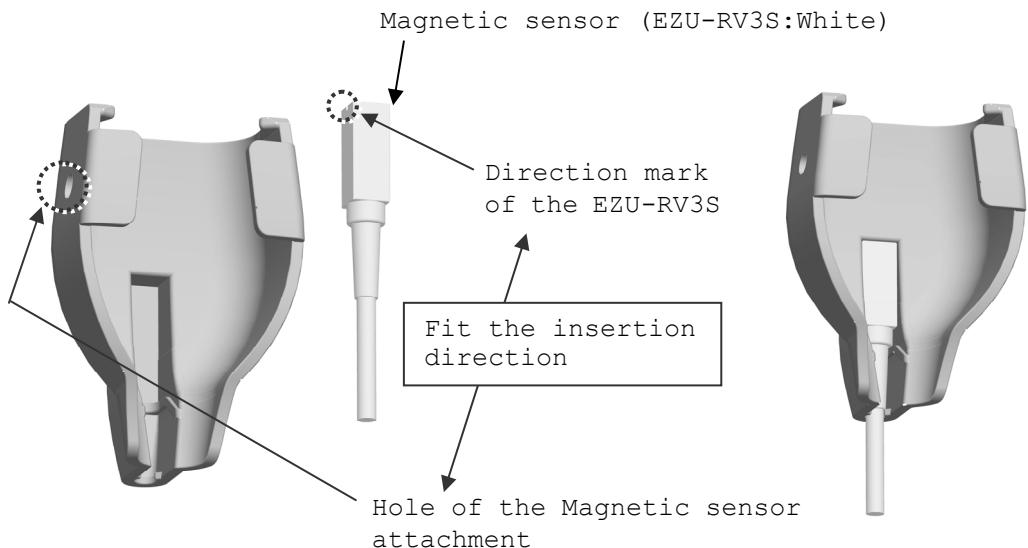

Fig. 9 How to attach the Magnetic sensor
- a) Attach the magnetic sensor into the probe with the correct direction as shown in Fig. 9.